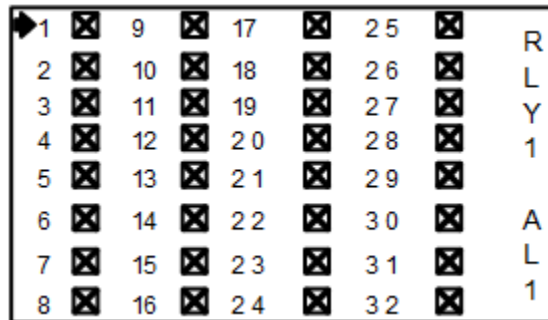

Figure 4-6 – Select Channels Screen
- Select Channels brings up a check box (see Figure 4-6) screen for assigning which of the Active Channels are assigned to this relay.